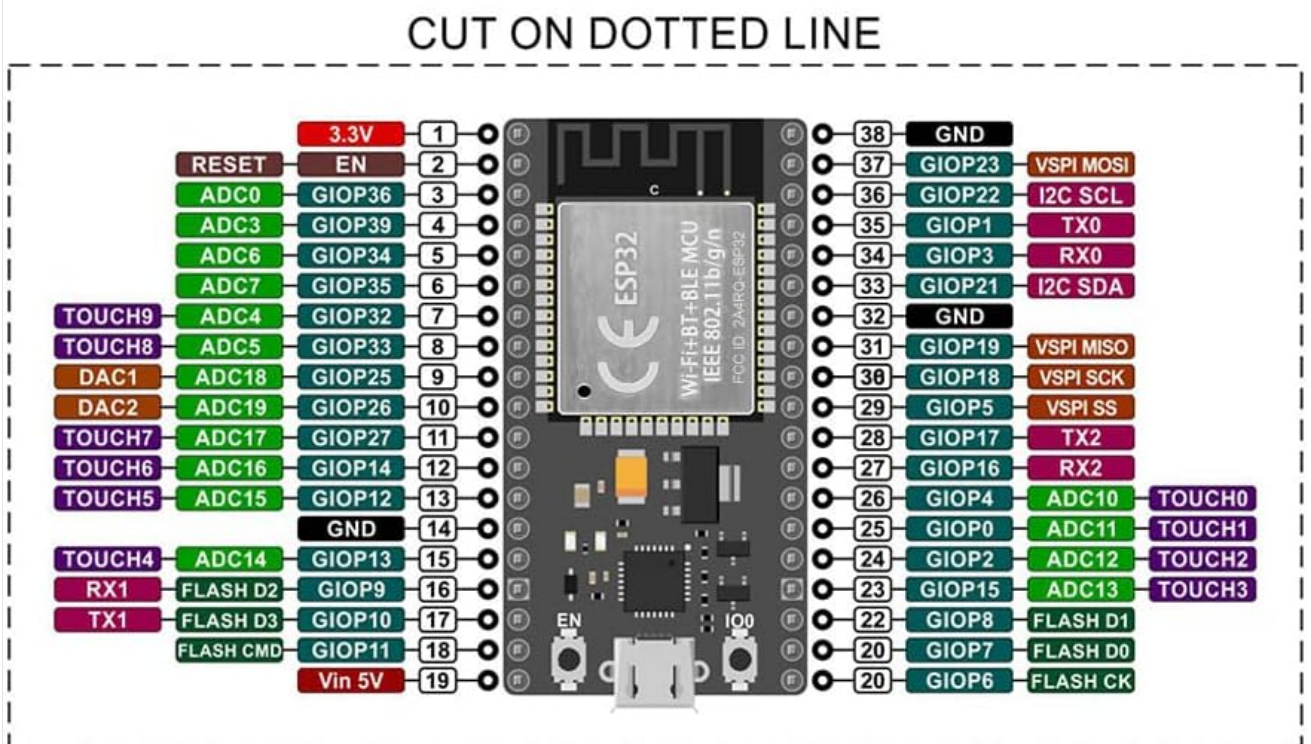

Figure 3: ESP32S 38-PIN Development Board Pinout Diagram. This diagram illustrates the function of each pin on the board.
- **Pinout:** Always refer to the pinout diagram (Figure 3) to ensure you are using the correct GPIO pins for your application. Some pins have specific functions or limitations.